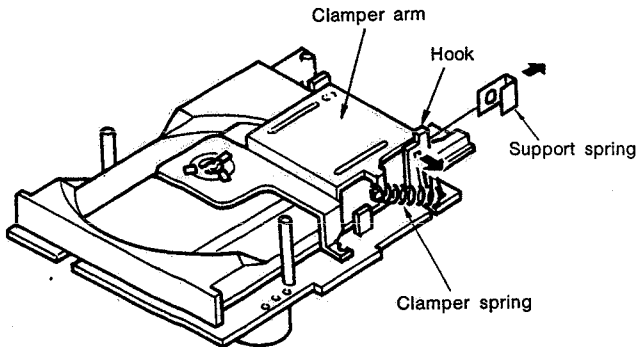

Fig. 5
2. Removing the Clamper Arm (Fig. 5)